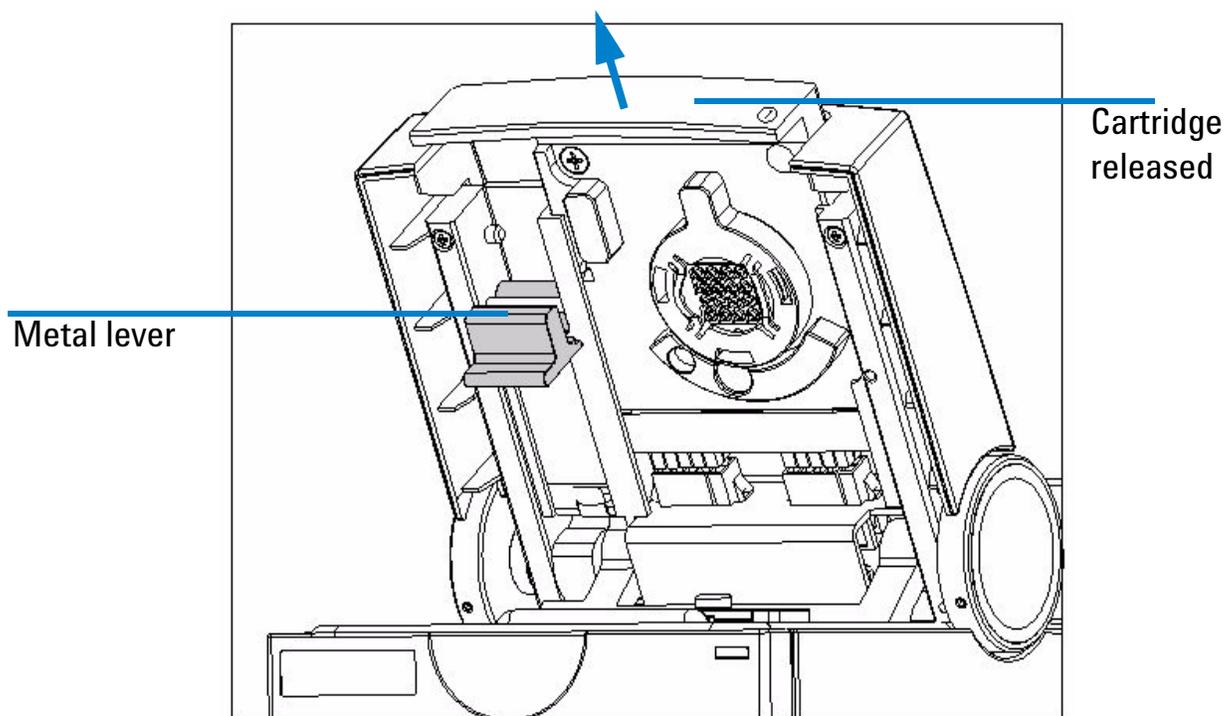

Figure 3 Removing the Electrode Cartridge
- 3 Gently pull the cartridge out of the lid as shown in Figure 3, “Removing the Electrode Cartridge”.